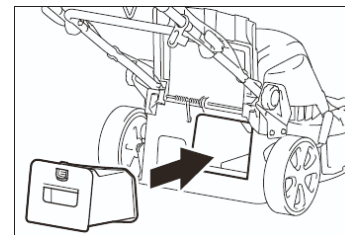
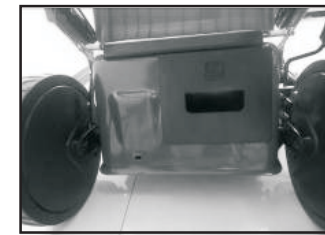

Fig.9A
Fig.9B
2. Push the mulching wedge into the deck. Lock the mulching wedge with the button into the opening on the deck (Fig.9A/Fig 9B).